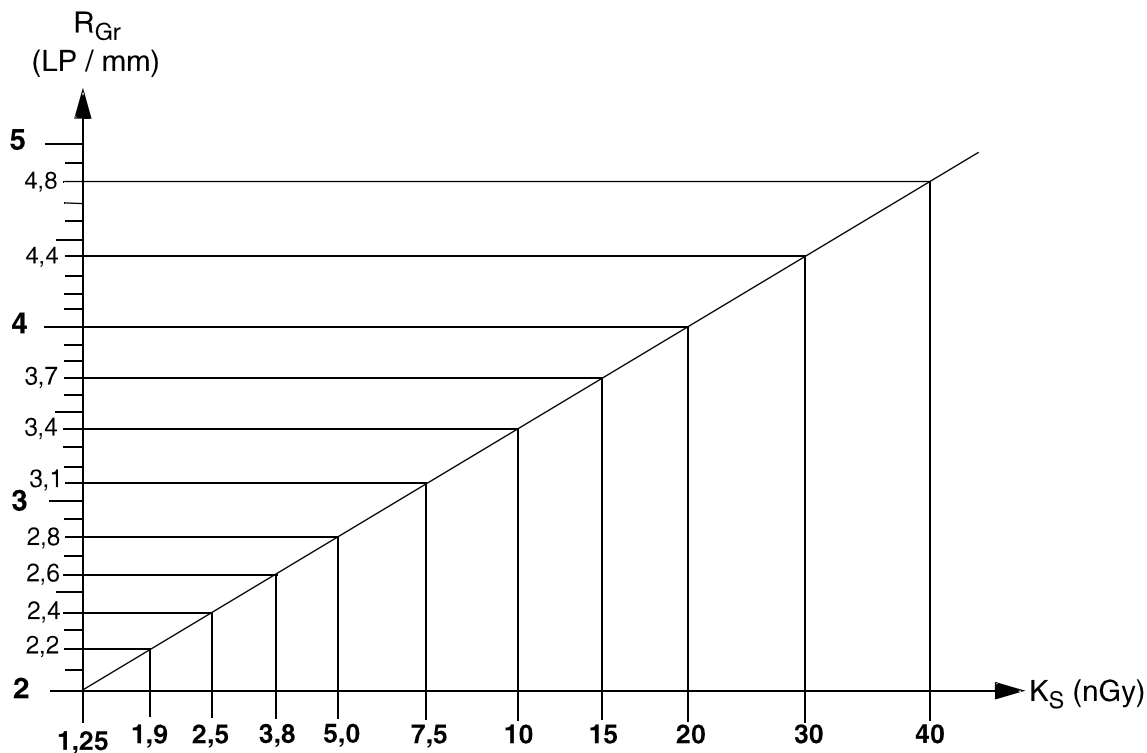

Fig. 5 Minimum resolution - dose requirement
- Take the relevant minimum resolution R_{Gr} from the diagram (Fig. 5) for the film/screen combination used and record it.